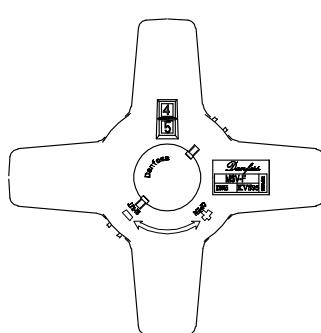

Fig. 7
- b: Unscrew the cap (h). See Fig. 7.